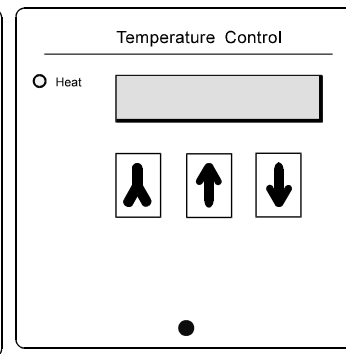

Figure 2-9
2.15 Setting the Chamber Temperature (Refer to Figure 2-9)